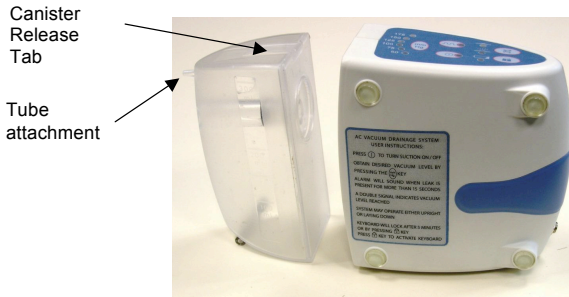

Fig. 4
4. Press canister release tab and pull canister from top of unit (see Fig. 4).